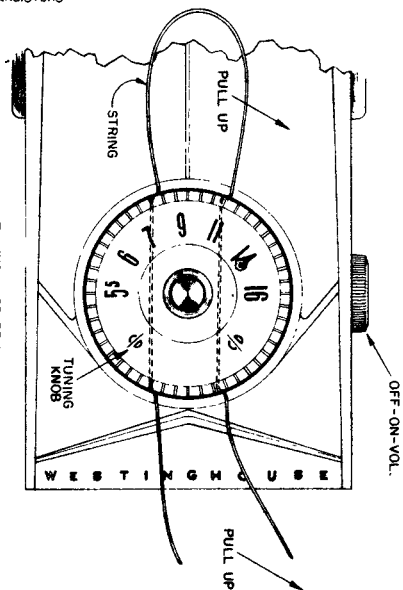

Figure 1 - Tuning knob removal
1. Remove the tuning knob as follows. Insert a loop of string (see figure 1) under the tuning knob and pull the knob up and out of the cabinet front.